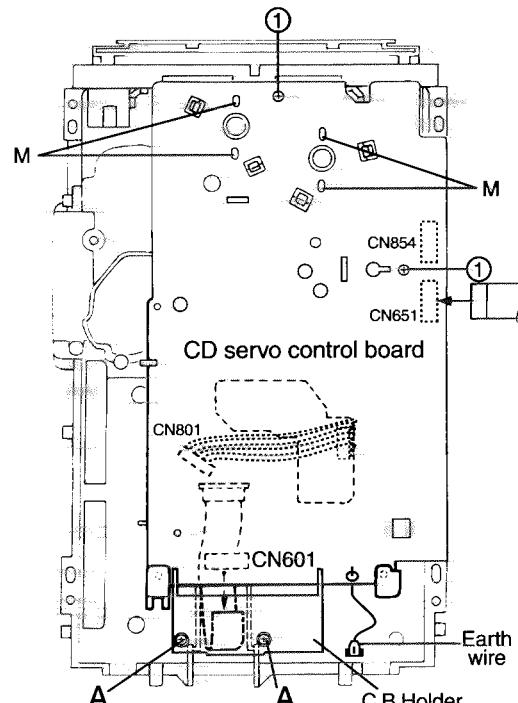

Fig.1
## ■ Removing the CD Servo control board (See Fig.1)
1. While shifting the trigger arms seen on the right side of the head mount in the arrow direction, turn the flywheel R in counterclockwise direction until the head mount has gone out with a click (See Fig 1).